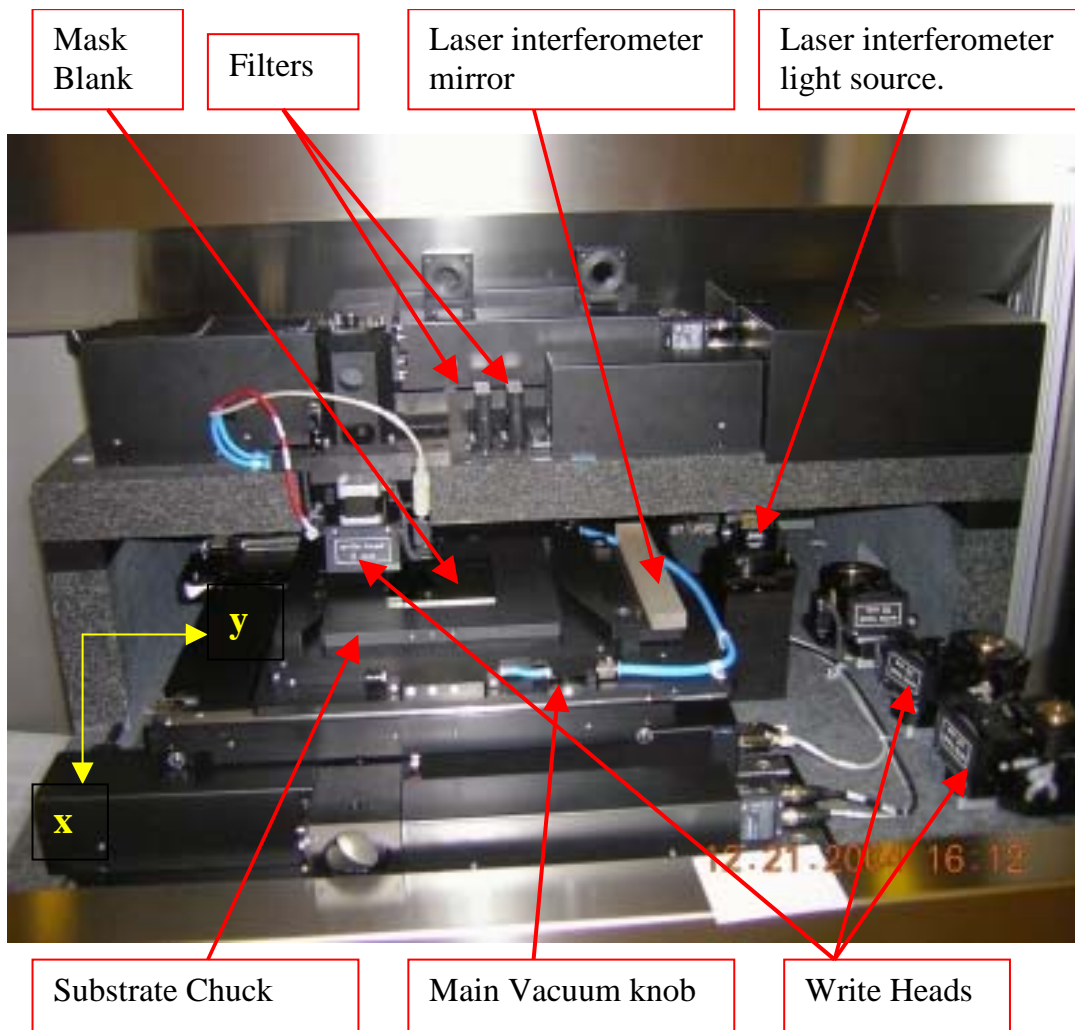

Figure 2-1: DWL 66 Stage and optics
- The stage position is measured using a laser interferometer system. Do not touch any of the mirrors (see Figure 2-1) or interrupt the beam. Touching a mirror will likely destroy it and interrupting the laser beam will require the system to be reset.
- DWL MENU: Open the Control Panel by clicking on . See Figure 2-1 for details on this control